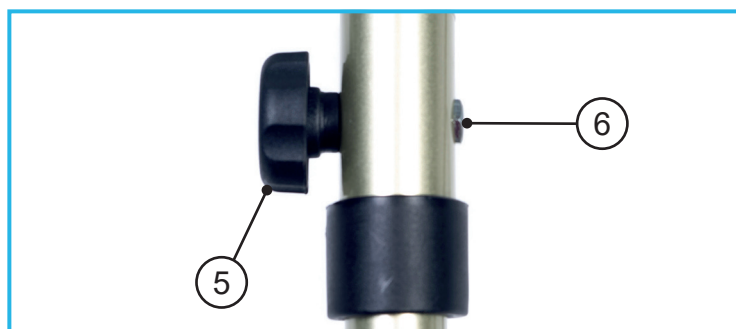

Figure 5: Attach the Handwheel
4. Refer to Figure 5. Attach the handwheel (item 5), to the handwheel bolt (item 6) and tighten.